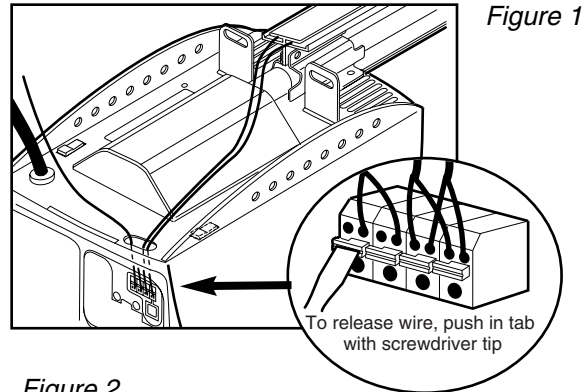

Figure 2
3. *Figure 2.* Remove the opener lens (refer to your owners manual) and bulbs.